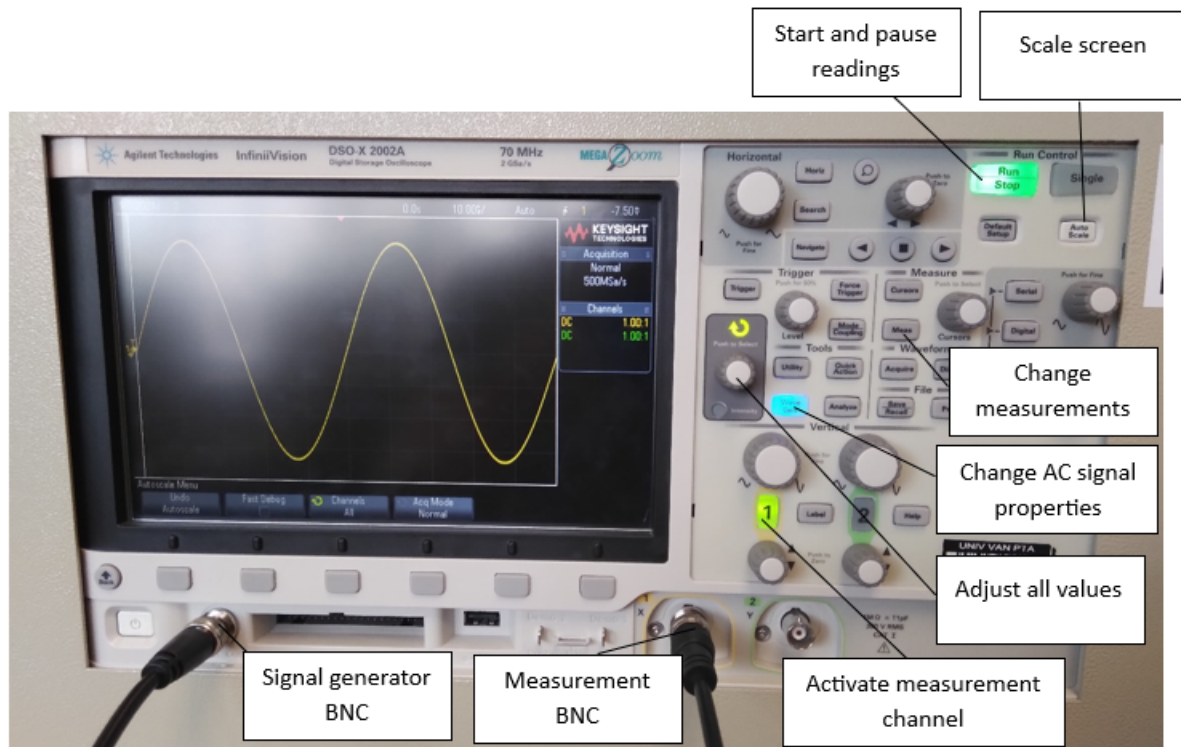
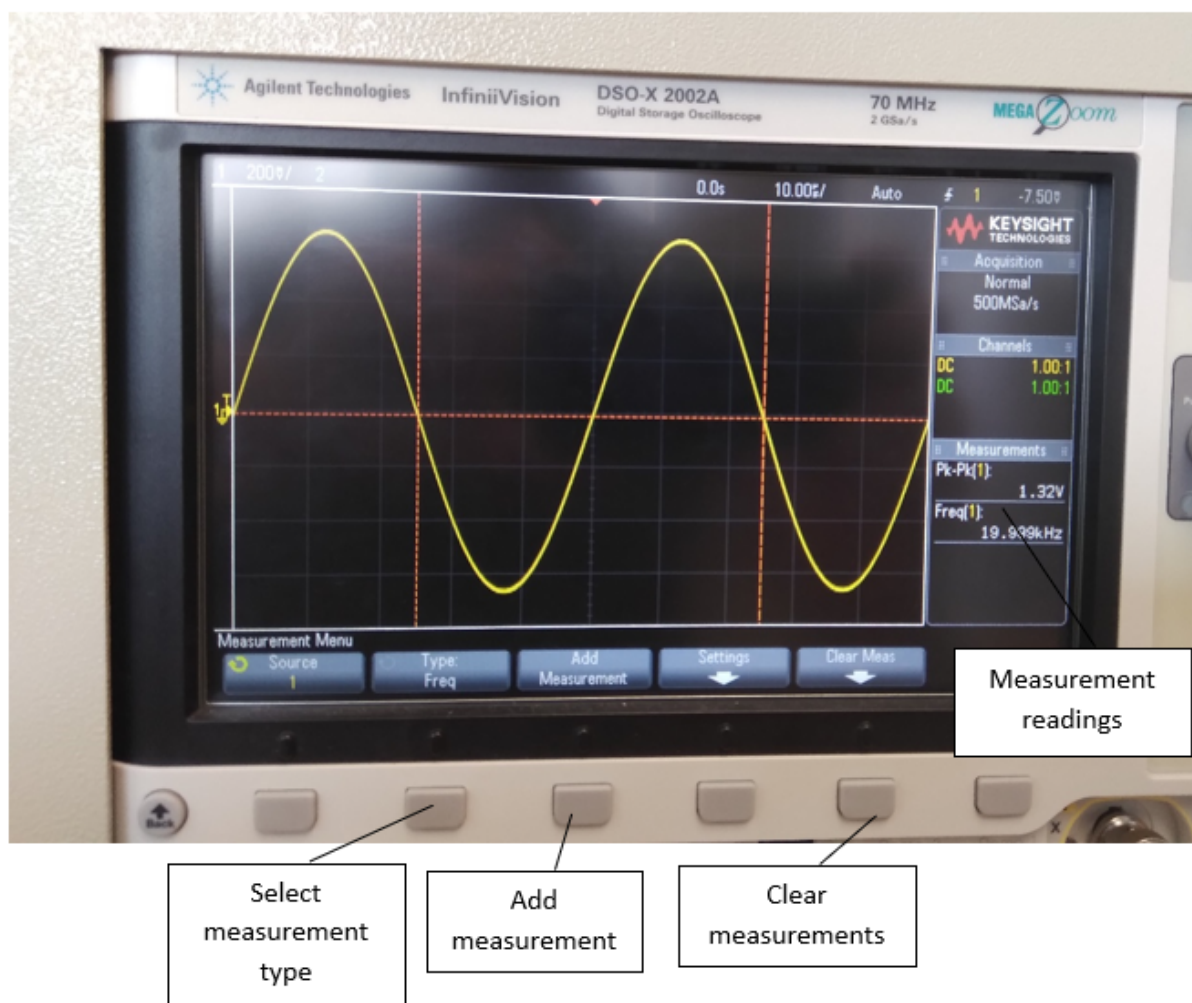

Figure 91: BNC cable connections and buttons used for an AC analysis.
Figure 93: Layout of the measurement functions of the oscilloscope.
1. A BNC cable is connected to the output of the function generator and the first measurement port of the oscilloscope as seen in Figure 91. To activate the measurement channel, click the button with the '1' on it until it lights up.
5. The oscilloscope is set up by pressing the 'meas' button as shown in Figure 91. The screen will then show what can be seen in Figure 93.